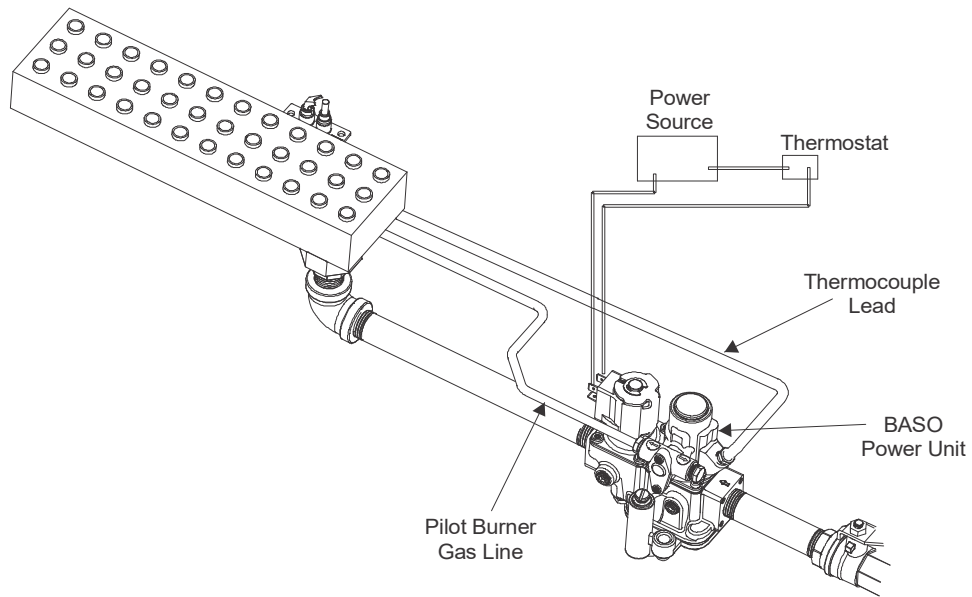

Figure 4: Typical Installation for Internal Pilot Gas Flow
7. Installer must be a trained, experienced, flame safeguard control technician. Threads of the pipe and nipples must be smooth and free of tears and burrs. A sediment trap should also be installed in accordance with the National Fuel Gas Code NFPA 54 (see Figure 4). Mount the valve to the pipework, use a quality rated pipe tape, UL listed seal material rated for gasoline, propane, and other gases. If not available, a quality grade pipe dope, a light amount on the male threads, starting two threads away from the first engaging thread. If pipe dope lodges on the valve seat, it will prevent proper closure. Remove excess compound after mounting the valve to the pipework.
On internal pilot gas valve models, plumb the pilot burner fitting to either of the pilot gas ports on the valve. Plug the unused pilot gas port on the gas valve. **See Figure 4.**